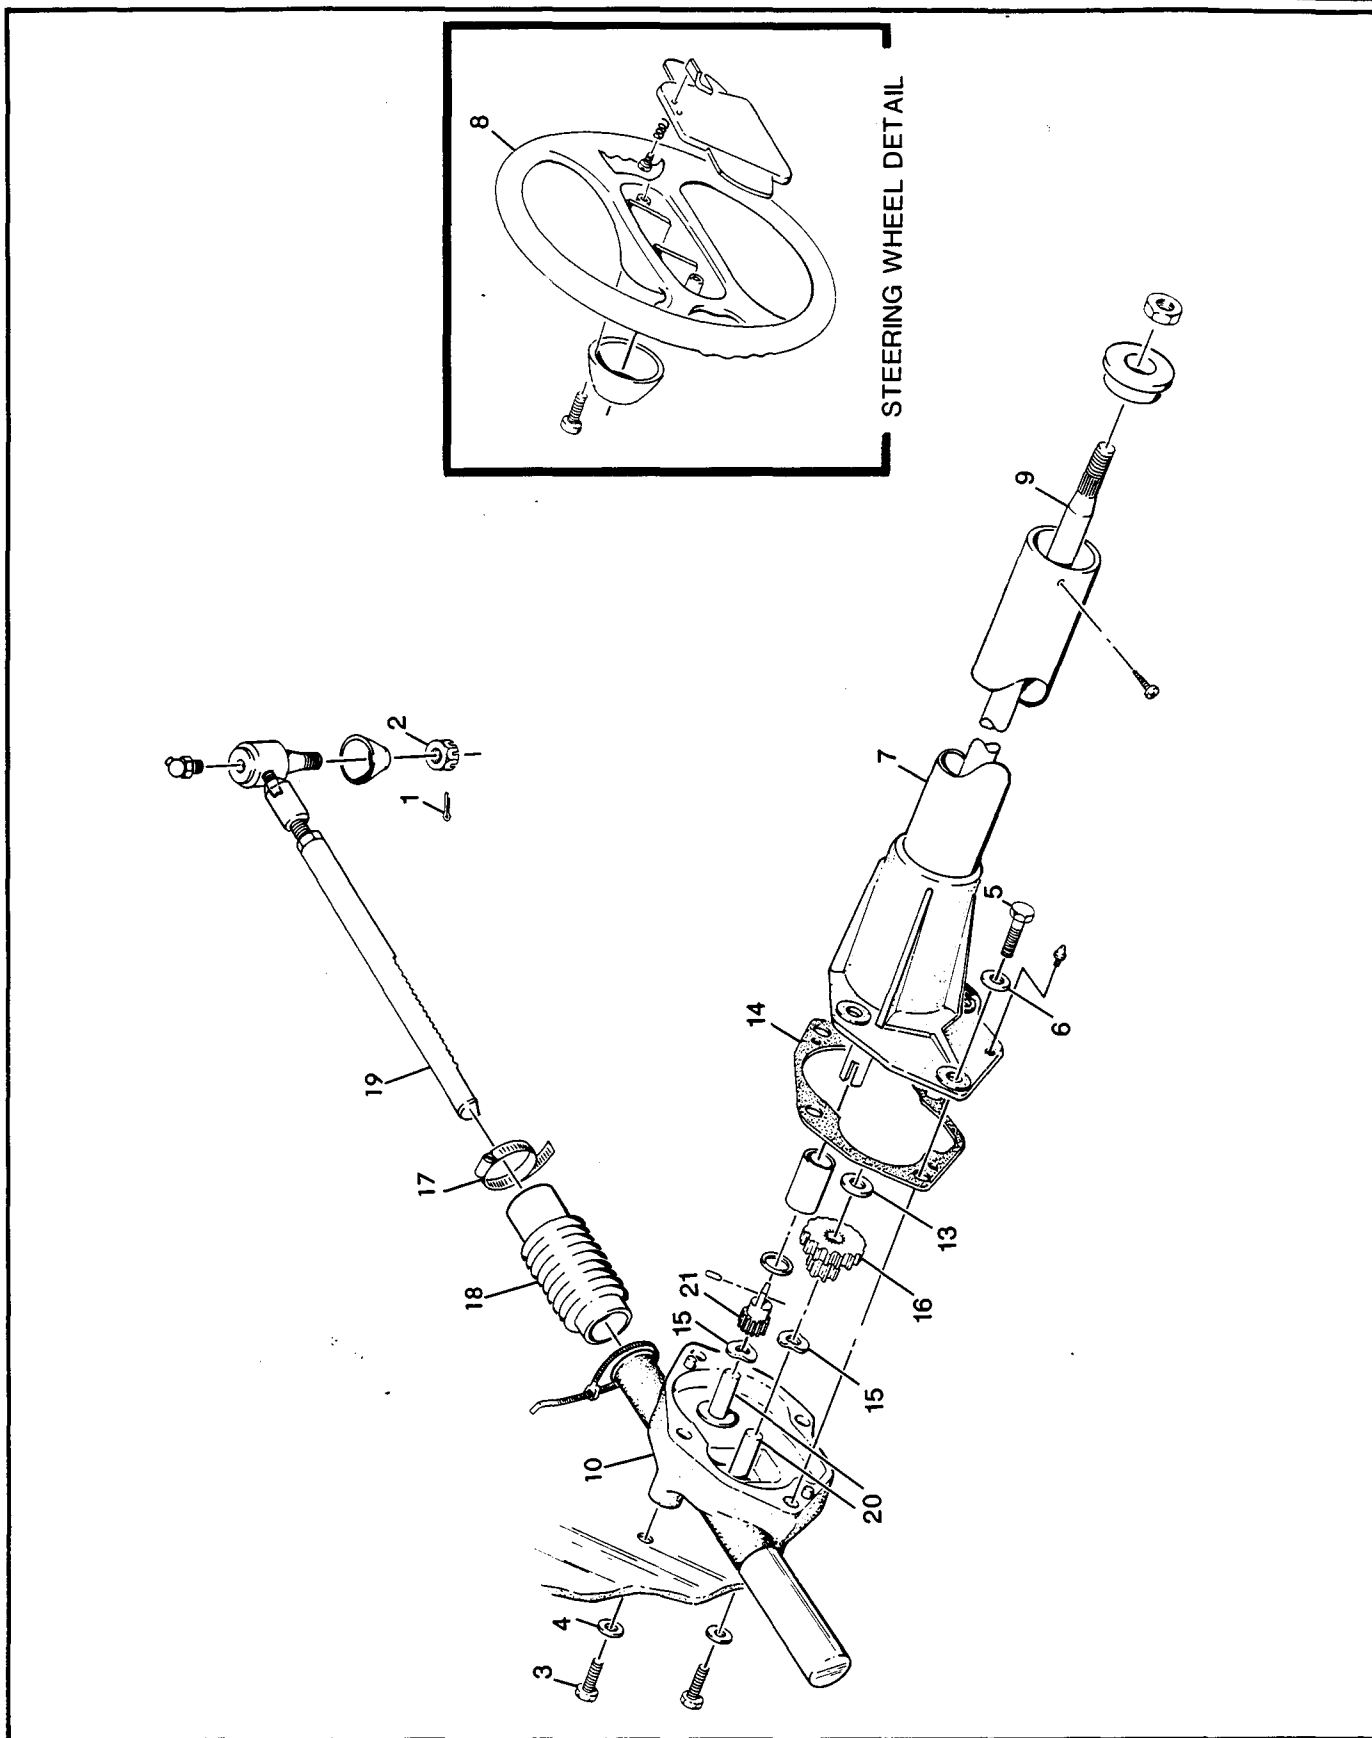

FIG. D-2 STEERING
### STEERING ASSEMBLY REMOVAL (Fig. D-2)
**Steering Shaft Removal (Fig. D-2)**
**Gear and Rack Removal (Fig. D-2)**